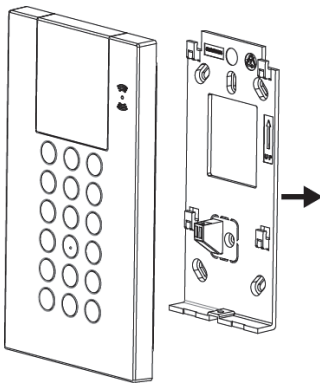

Figure 1
1. Separate the mounting bracket from the keypad (see Figure 1).